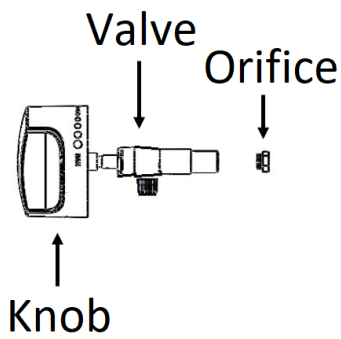

Fig. 2
2. Remove gas burner orifices at the end of the valve and install the burner orifices required (Fig. 2).